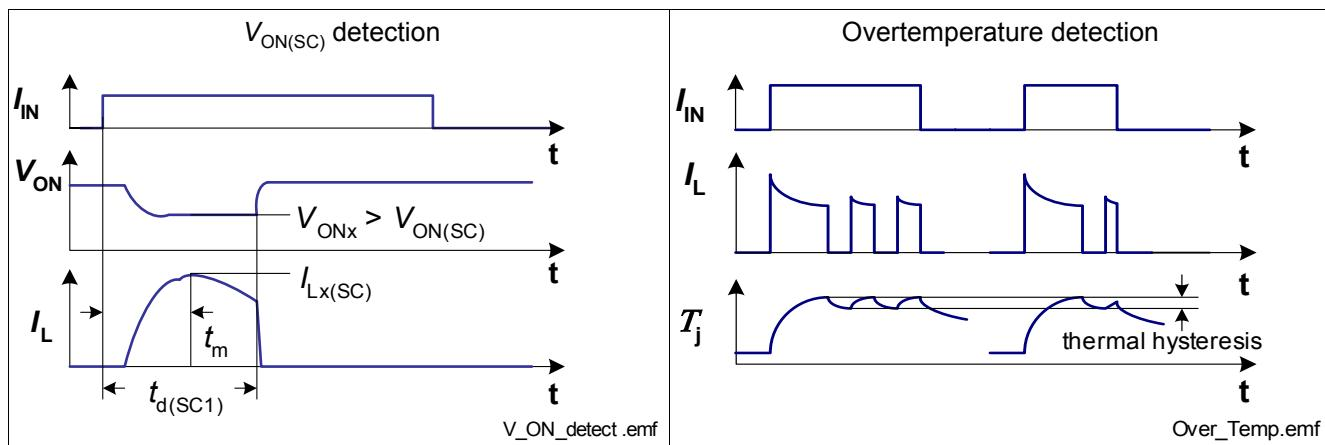
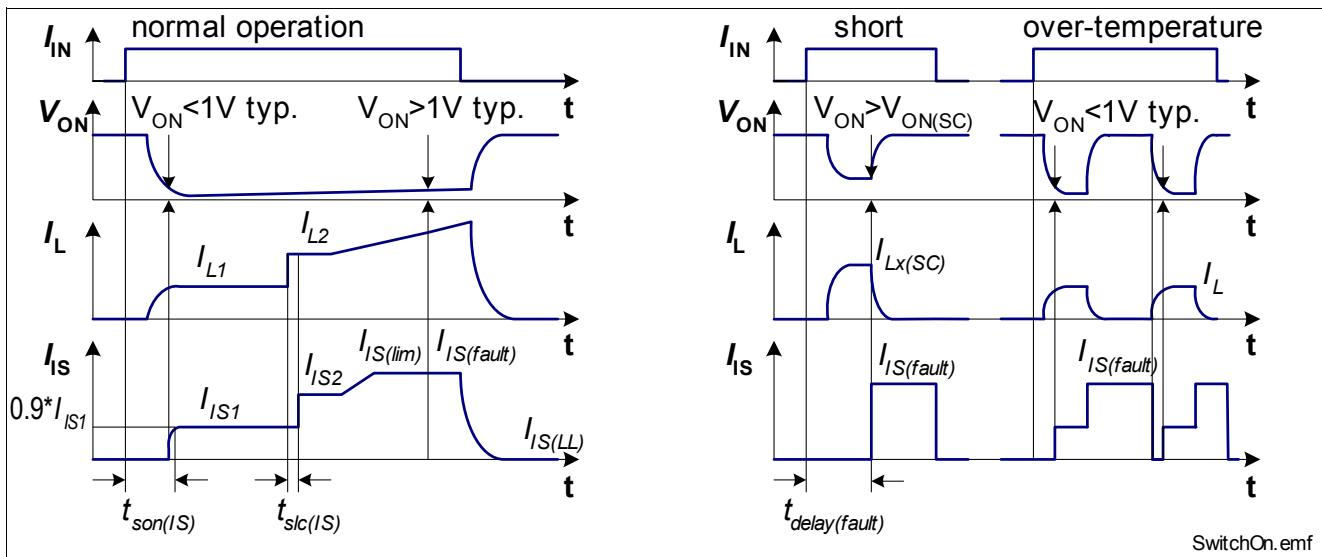

Figure 12 Overload Behavior
Figure 19 Timing of Diagnosis Signal in ON-state
In the event that either the short circuit detection via  $V_{ON(SC)}$  is not activated or that the on chip temperature sensor senses overtemperature before the blanking time  $t_{d(SC1)}$  expired, the device switches off resulting from over-temperature detection. After cooling down with thermal hysteresis, the device switches on again. The device will react as during normal switch on triggered by the input signal. Please refer to Figure 12 and Figure 19 for details.
- 2) Short circuit current limit for max. duration of  $t_{d(SC1)}$ , prior to shutdown, see also Figure 12.
Details about timings between the diagnosis signal  $I_{IS}$ , the forward voltage drop  $V_{ON}$  and the load current  $I_L$  in ON-state can be found in Figure 19.